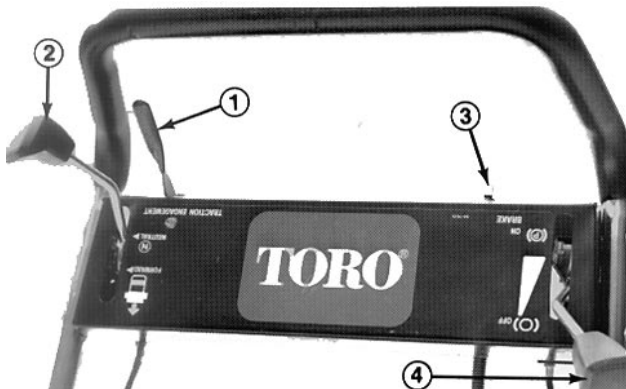
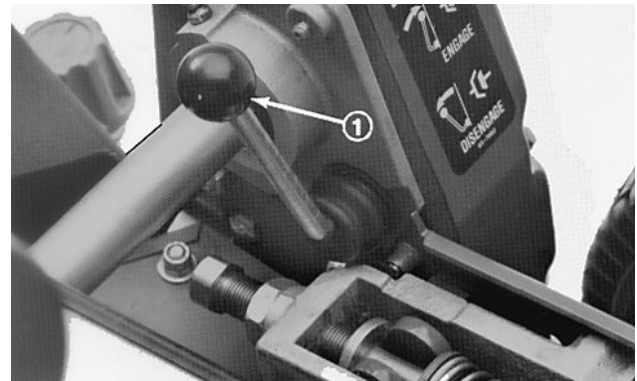

Fig. 12
Fig. 13
Traction Engagement Lever (Fig. 12)—Located on the front right side of the control panel. The lever has two positions: NEUTRAL and FORWARD. Pushing the lever forward engages the traction drive.
On/Off Switch (Fig. 12)—Located on the left rear side of control panel. Move switch to ON to start the engine and to OFF to stop the engine.
Service/Park Brake (Fig. 12)—Located on the left front side of control panel. Use the brake to slow or stop the machine. The brake can also be used as a parking brake. Pulling the lever back over the center will set the parking brake.
Throttle Control (Fig. 12)—Located on the rear right side of control panel. Control has two positions: SLOW and FAST. Engine speed can be varied between the two settings.
Reel Drive Engagement Lever (Fig. 13)—Located on the right front corner of the machine. The lever has two positions: ENGAGE and DISENGAGE. Pull up on the lever to engage the reel or push down on the lever to disengage the reel.
1. Make sure the traction (Fig. 12) and reel drive (Fig. 13) levers are in the DISENGAGED position.
3. Move the ON/OFF switch (Fig. 12) to ON.
4. Move the throttle control (Fig. 12) to FAST.